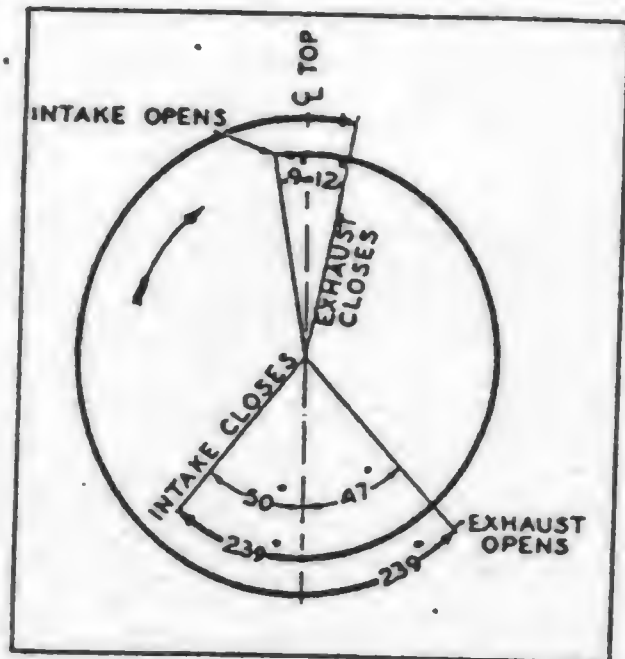

FIG. 25 VALVE TIMING
(5) Inlet valve opens 9° before top center measured on flywheel or .039" piston travel from top center. To check valve timing, (Fig. 25), adjust inlet valve tappet of No. 1 cylinder to .020". Rotate crankshaft clockwise until piston in No. 1 cylinder is ready for the intake stroke, at which time the tappet should just be tight against end of valve stem and mark on flywheel "10" in center of timing hole in flywheel housing on right side of engine, (Fig. 16).